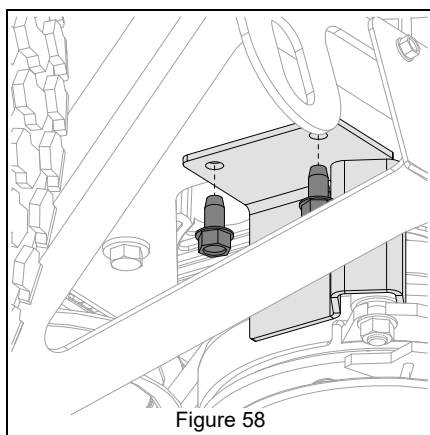

Figure 58
5. Remove hardware securing clutch stop bracket to frame and remove bracket. See Figure 58.
4. Reinstall clutch stop bracket and secure with original hardware. See Figure 58.